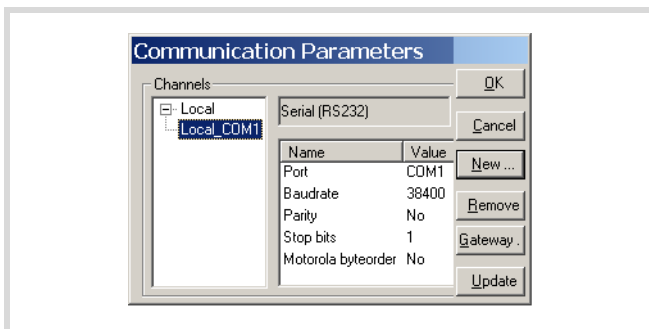

Figure 72: Defining the PC's communication settings
The communication parameters of both the PC and the PLC must match in order to establish a connection between them. The default parameters are set as shown in figure 72 on devices that are used for the first time. Just select the COM... interface on the PC. No other settings are required.
- ▶ Use the remaining settings as shown in figure 72.